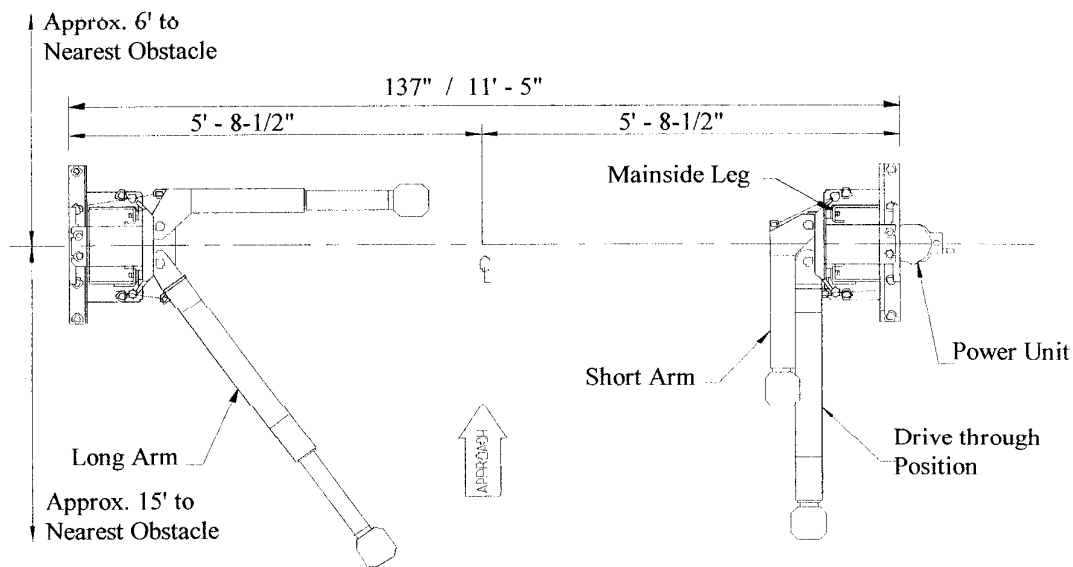

FIGURE 3
4. Figure 3 shows proper placement of the legs in the service bay. The mainside leg has a mounting bracket on its back for the power unit along with two holes in its back near the top. The mainside leg is located on the right hand or passenger side of the lift.
33. Install the swing arms with the swing arm pins. The pins just drop in, there is no attaching hardware. The long arms go to the rear, or drive in side of the lift. Refer to Figure 3 for placement of the swing arms.